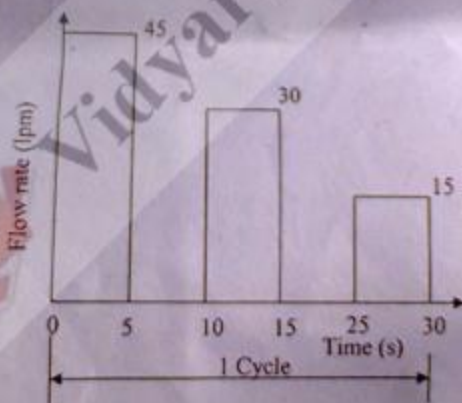

Fig. Q. 13(b) Hydraulic system demand
- (b) A pump/accumulator power pack is to supply the fluid flow demanded by a hydraulic system as shown in Fig. Q. 13(b). The system working pressure is 125 bar and the maximum pressure at the accumulator is 200 bar. Assuming the accumulator precharge pressure is 90% of its maximum working pressure, determine
- (i) the actual pump delivery required (6)
- (ii) the maximum volume of fluid to be stored in the accumulator (6)
- (iii) the accumulator volume assuming an isothermal charge and discharge of the accumulator. (4)